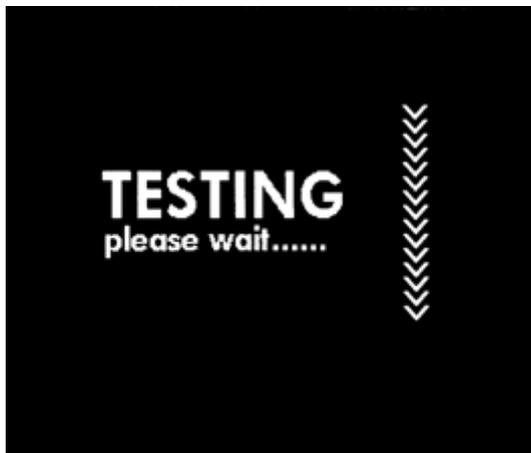

Figure 5-2 Waiting message
6. In the main screen, touch <STAR>. The system starts a test and displays a waiting message on the screen as Figure 5-2.
5. Touch <STAR>. The system starts a test and displays a waiting message on the screen as Figure 5-2.